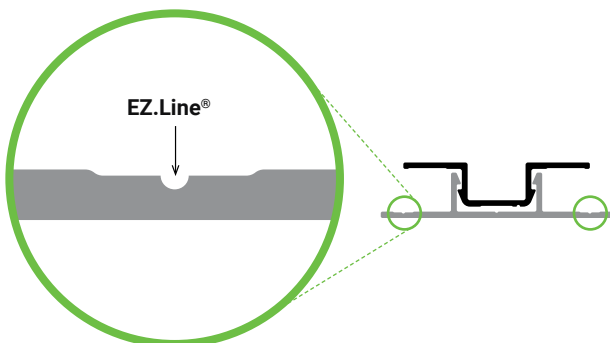

Figure 11.2 Pictured: the EZ.Line® on the EZ.7 Vertical U Panel Assembly back plate.
- Each profile has a fastening guide called the EZ.Line® located on the fastening flange. (Figure 11.2).